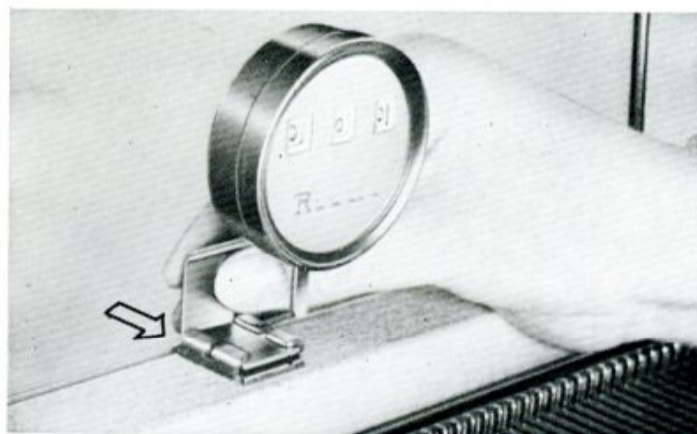

Fig. 12
- a. Set the row counter into either of the brackets on the back of the needle bed. (See Fig.12)